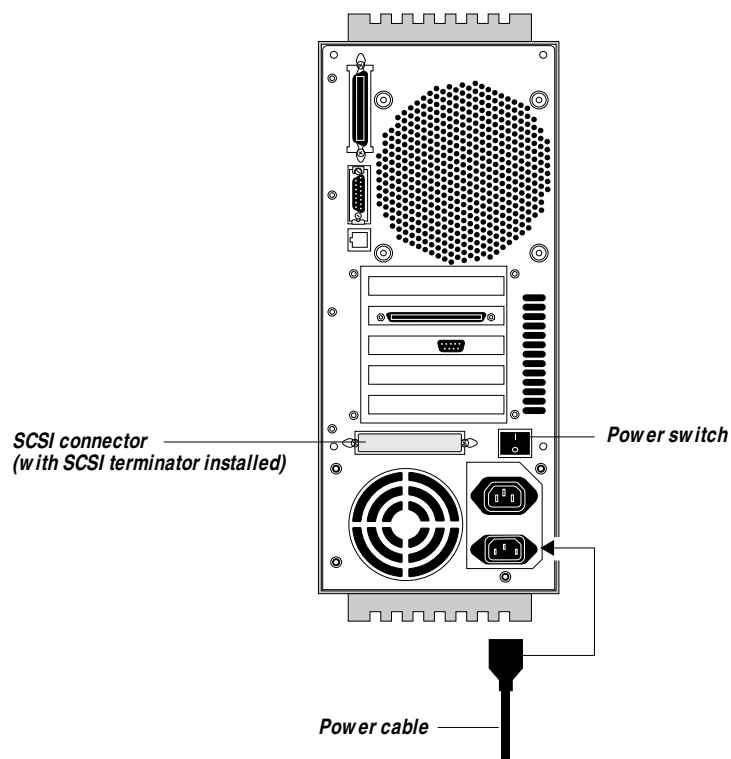

Figure 3-1 Fiery XJ-R/R2 back panel
1. **Connect one end of the Fiery XJ-R/R2 power cable to the lower plug at the back of the Fiery XJ-R/R2 (see Figure 3-1).**